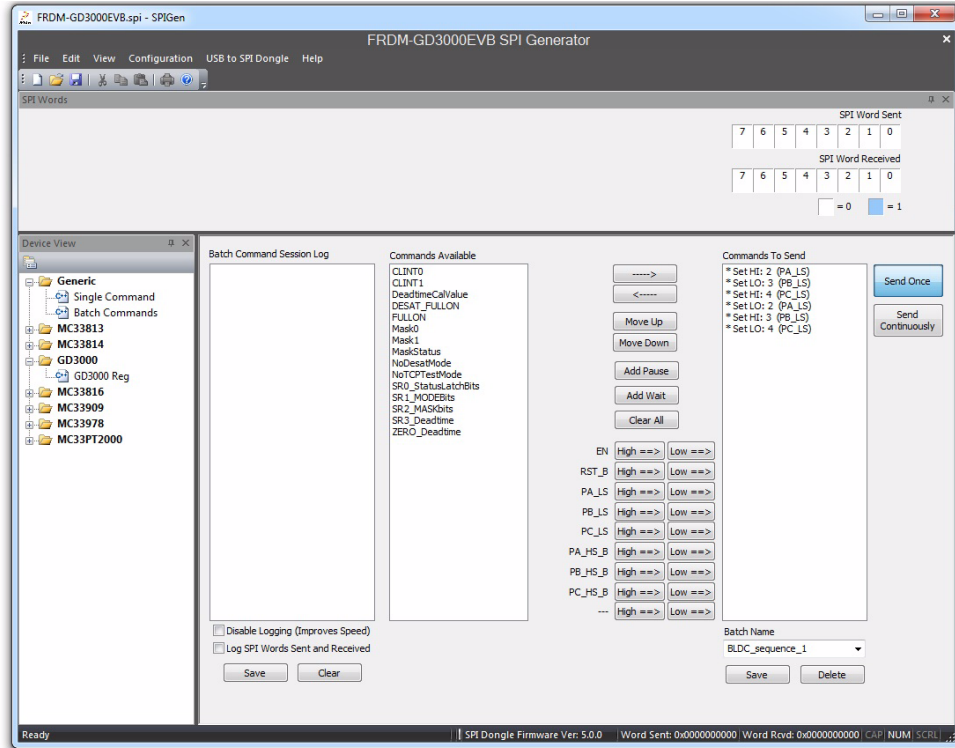
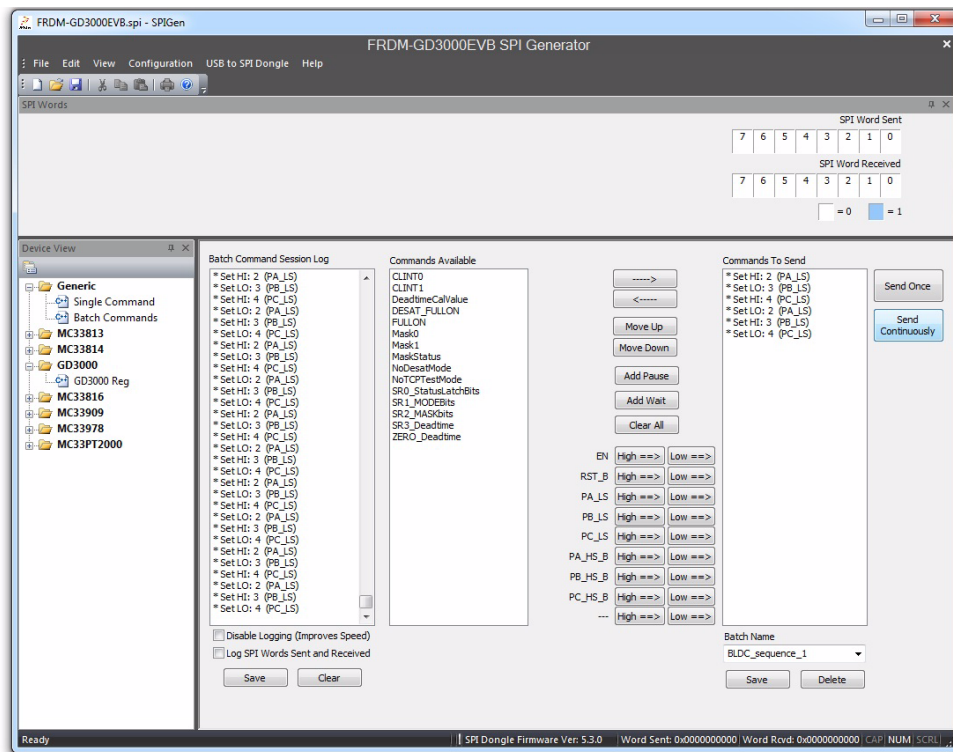

Figure 20. SPIGen Sending single batch commands
Figure 21. SPIGen sending batch commands continuously
- Once selected, the batch command can be sent once (Figure 20) or continuously (Figure 21).